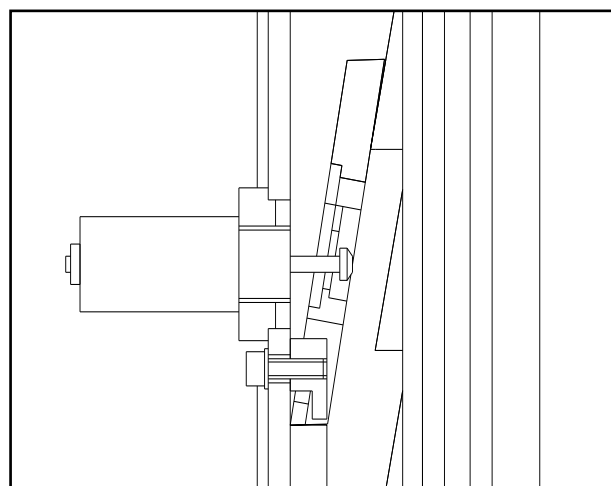

Fig. 28
- ◆ Install the safety devices including electromagnet, automatic locking board and hock board inside both columns. (Fig. 28) The first step should install the safety devices under both columns.
- ◆ Install the screw according to *Fig. 28*.